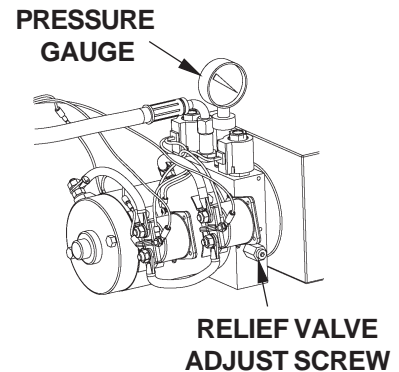

FIG. 9
9. With Platform on the ground, remove the pressure hose and fitting from the Pump and replace it with a 0-3000 PSI Pressure Gauge. Hold the Control switch in the "RAISE" position. Adjust the Relief Valve on the side of the Pump until the gauge shows 2800 to 3000 PSI (**FIG. 9**). Remove gauge and re-install pressure hose.